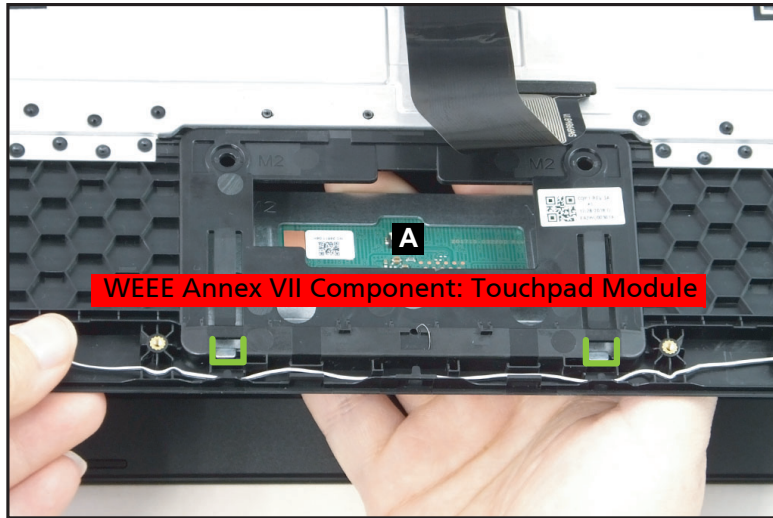

Figure 1-22. Touchpad Module Removal
6. Release the tabs on the touchpad bracket from the slots on the top assembly and then remove the touchpad module (A) (Figure 1-22).